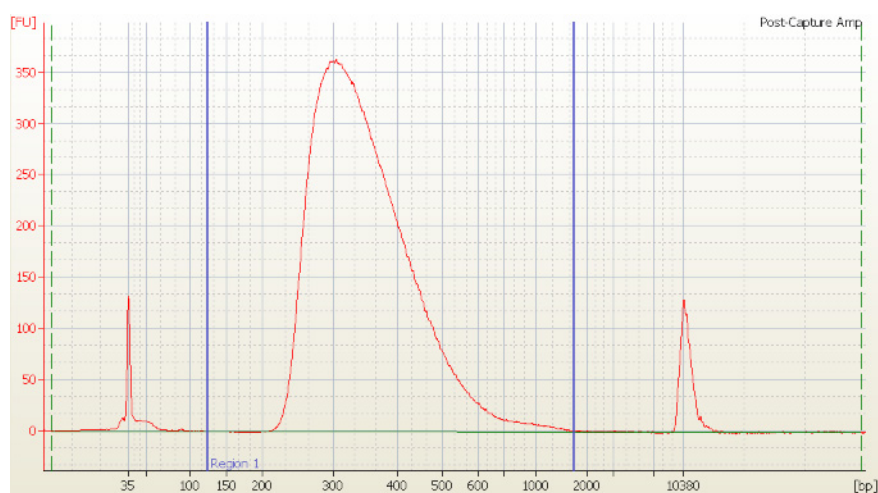

Figure 20 Analysis of indexed DNA using the High Sensitivity DNA Assay.
- 6 Verify that the electropherogram shows the peak of DNA fragment size positioned between 250 to 350 bp. A sample electropherogram is shown in Figure 20.